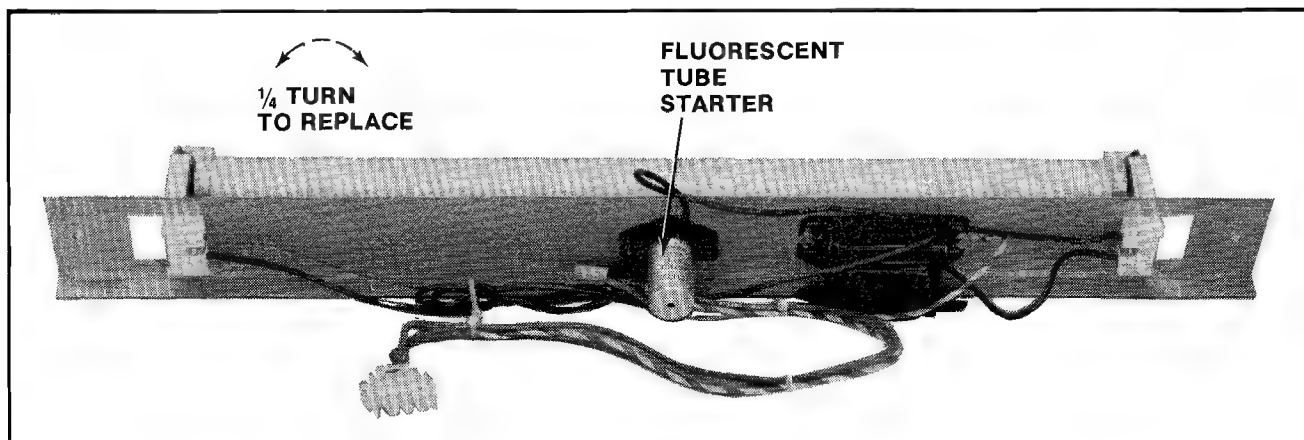

Figure 27 Replacing fluorescent starter — Upright game
- Replacing the fluorescent tube starter. See Figure 27.